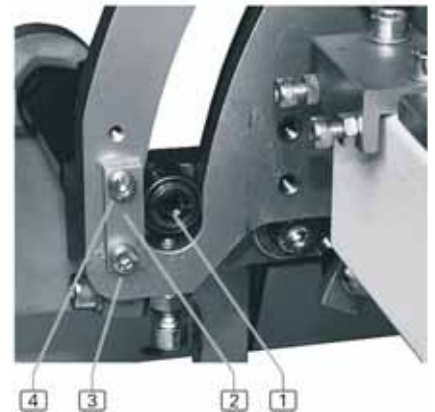

fig. 24
2. **fig. 24:** Loosen both fastening screws **3** and **4** of the stop **2**.